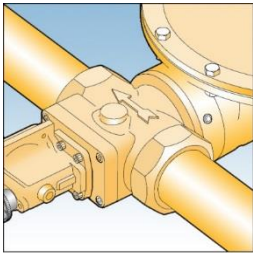

Fig. 1
6. The direction of gas flow must be the same as arrows on regulator body. See Fig. 1.